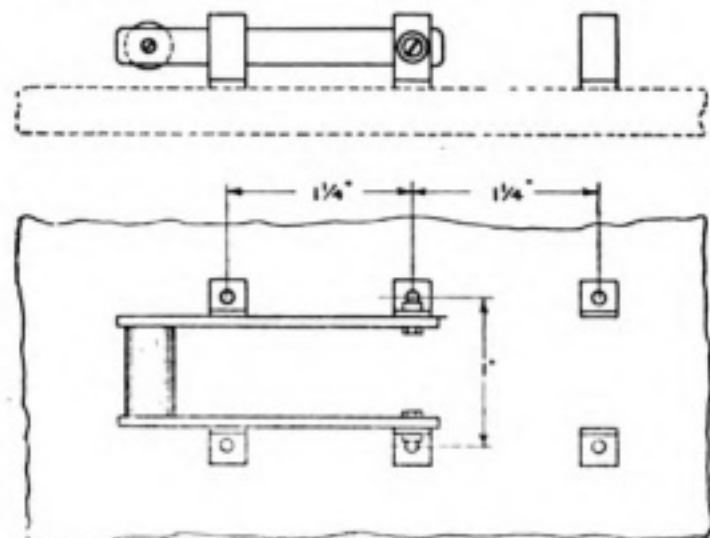

Fig. 6.
*The Change-over Switch* is shown in Fig. 6. The switch blades may be made of strip brass  $\frac{3}{8}$ -inch wide  $\frac{1}{16}$ -inch thick and about 2 inches long. The four outside contacts should be made just like the grid and plate clips for the V24 valve, and the two centre contacts to which the switch arms are pivoted should be the same as the filament clips of the valve.